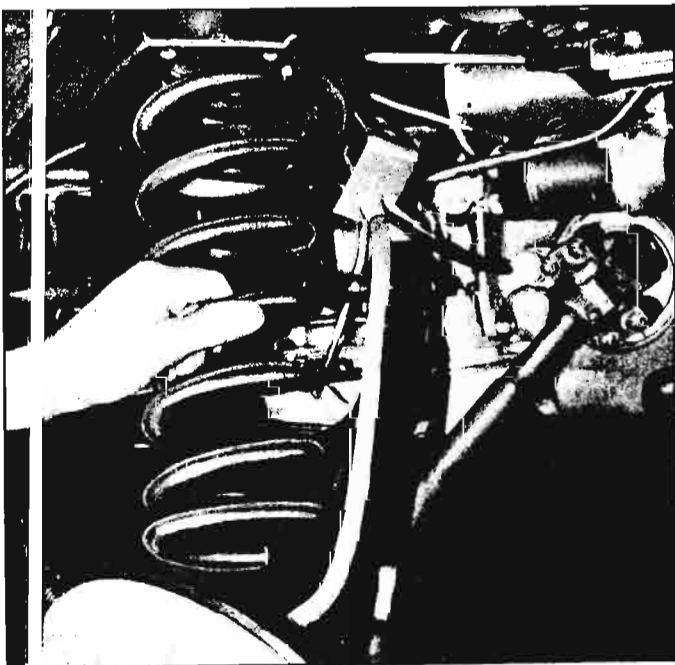

Fig. 3-25—Coil Spring Removal
- Carefully lower floor jack until spring is free (fig. 3-25). Do not remove or lower the jack too far as this places too much strain on axle shaft and/or brake hose.